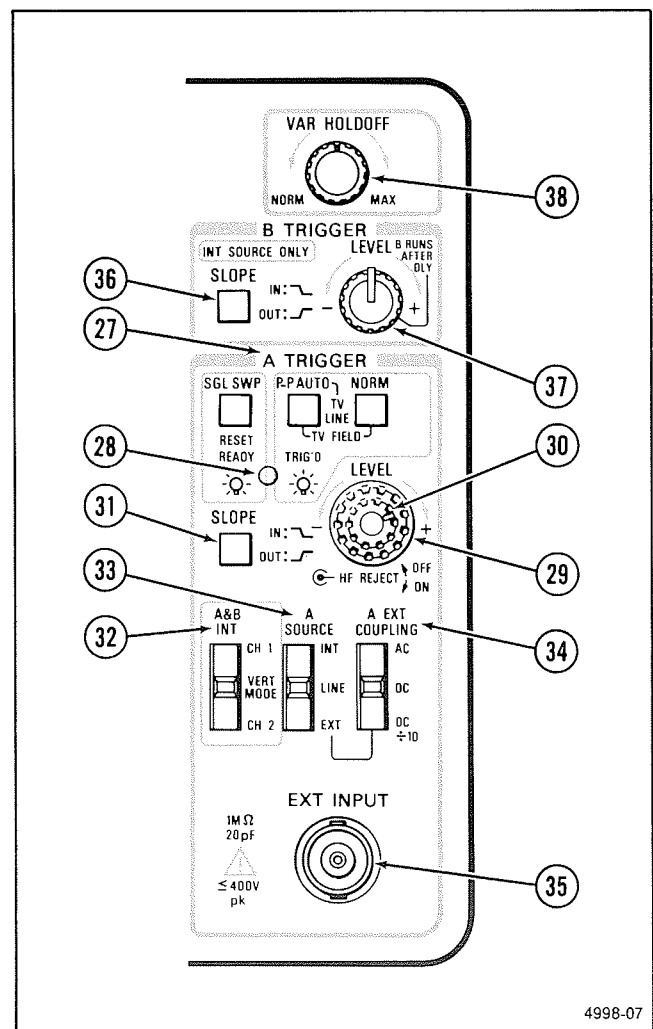

Figure 3-4. Trigger controls, connector, and indicator.
Refer to Figure 3-4 for location of items 27 through 38.